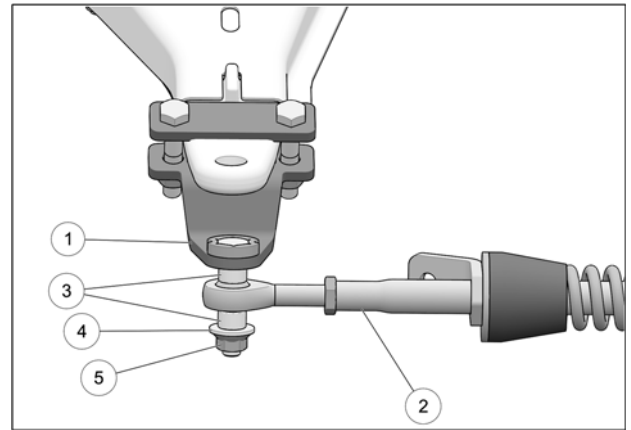

Fig. 29
17. Attach the stabilizing rod (**2**) to the anchor bracket (**1**), using the two spacer bushings (**3**), flat washer (**4**) and nut (**5**). Torque to 70 N•m [52 lb•ft]. Fig. 29